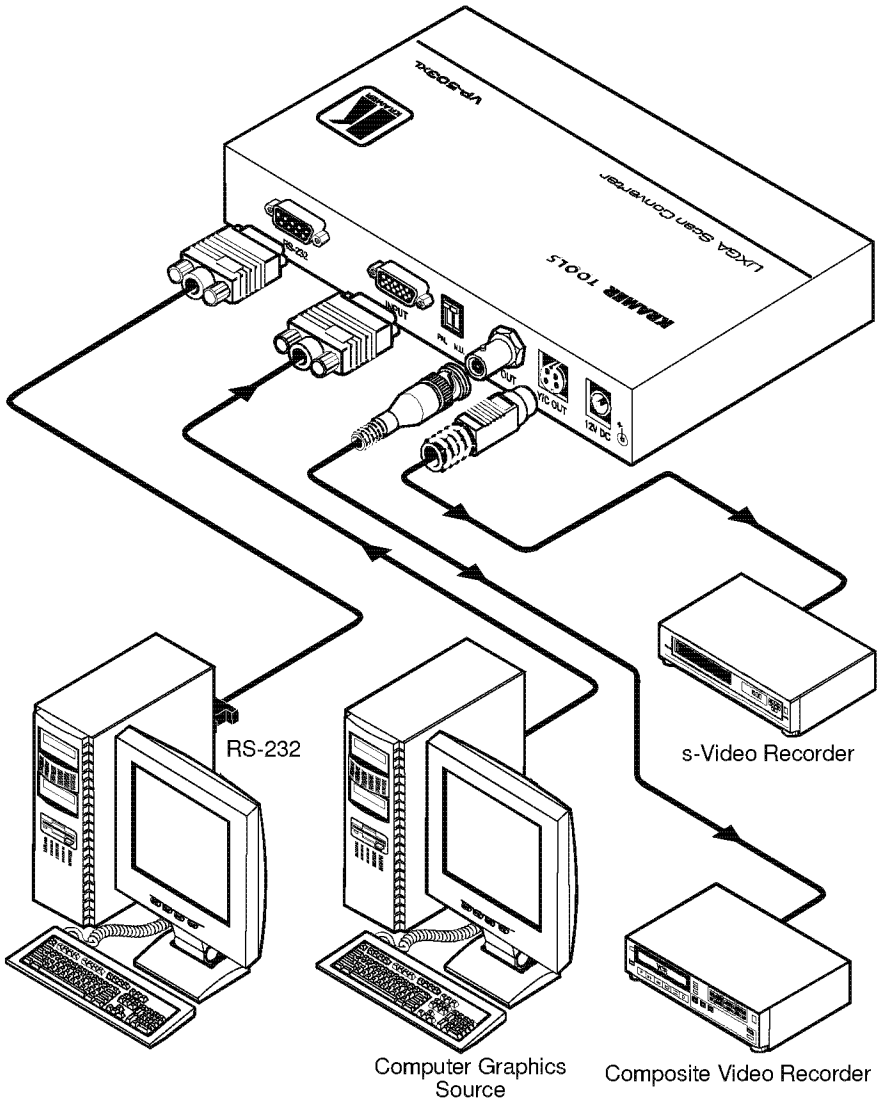

Figure 5: Connecting the VP-503xl
To connect your **VP-503xl** as the example in Figure 5 illustrates, do the following¹:
5. Connect the 12V DC power adapter to the power socket and connect the adapter to the mains electricity (not shown in Figure 5).